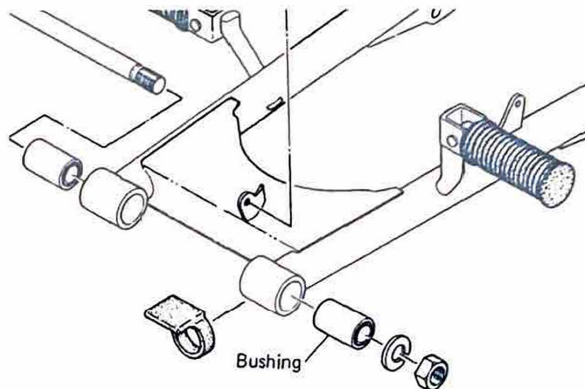

Fig. 5-8-4
- 2) Insert the bushing as indicated in Fig. 5-8-4, and check it for play. If the play is excessive, replace the bushing.